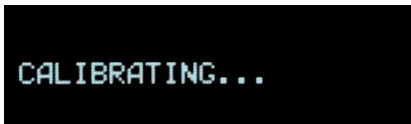

Figure 2-8: Calibration in Progress
4. Once the navigation button is pressed, Figure 2-8 shows on the display indicating open calibration is in progress.